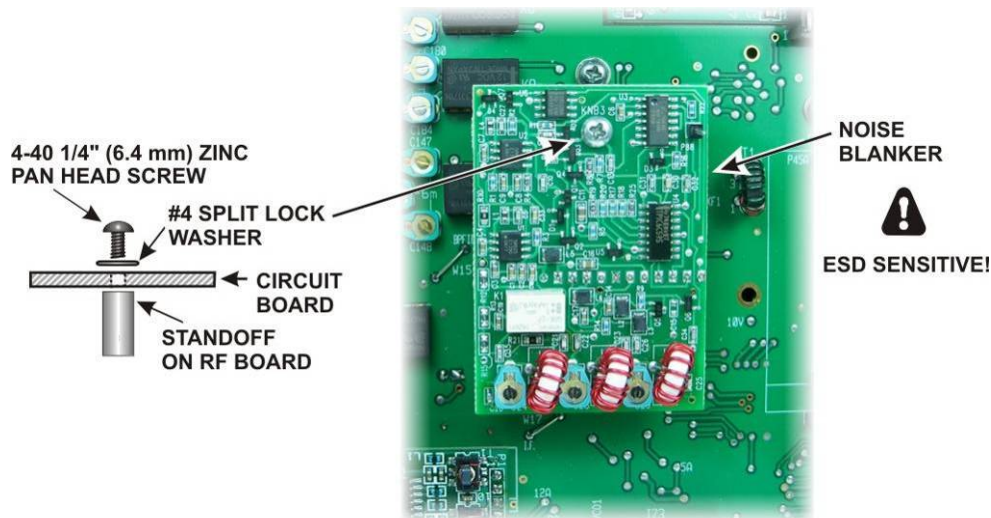

Figure 91. Installing the Noise Blanker Board.
- Plug the noise blanker board into J77 and attach it to the standoff using the hardware shown in Figure 91.